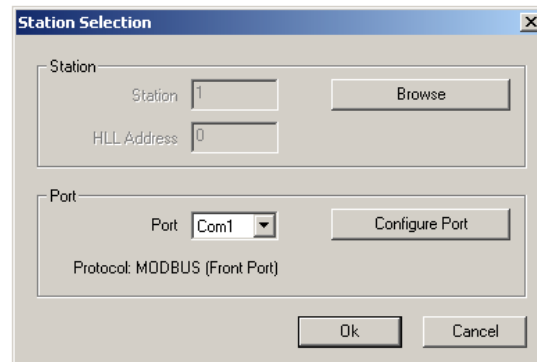

Figure 12-5 Station Selection dialog
2. Click **View > Monitor Mode** to display the dialog in Figure 12-5. Select the Station and Port as described in Chapter 5 Communicating with the Controller.